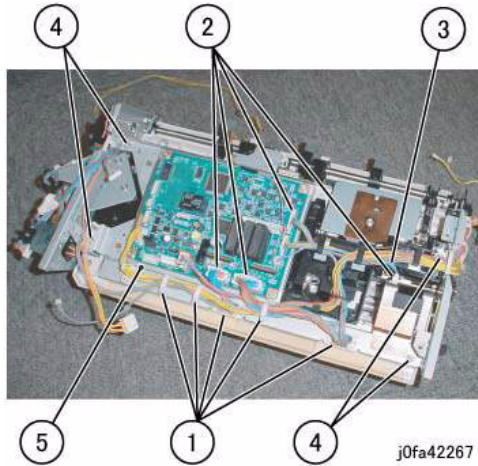

Figure 2 Removing the Bottom Plate (j0fa42267)
8. Remove the Bottom Plate. (Figure 2)